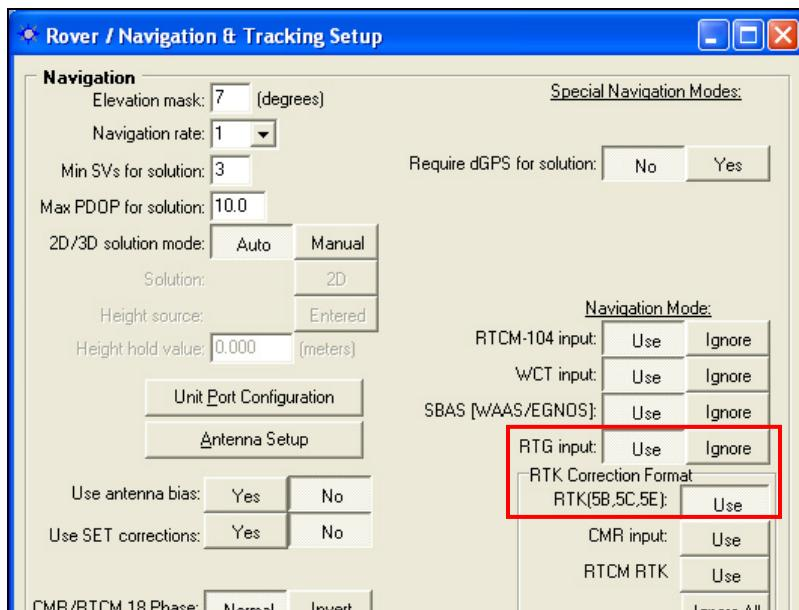

Figure 123: Rover Configured for RTK Extend
- ✓ Set both *RTG Input* and *RTK (5B, 5C, 5E)* to *Use* if not already set (see Figure 123). RTK Extend™ will not function unless both controls are set to *Use*.